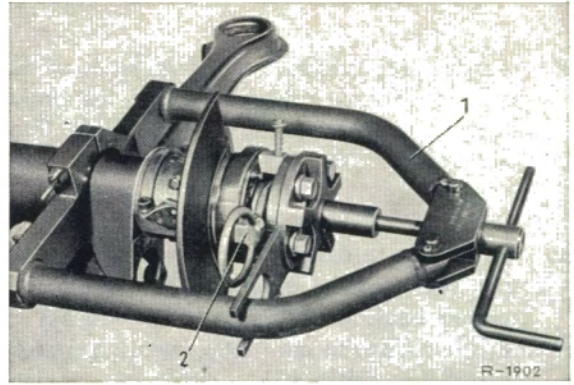

Fig. 35-3/19
38. Install and tighten the hexagon socket screws (43) together with lock washers (Fig. 35-3/2. For tightening torque see Job No. 35-0).